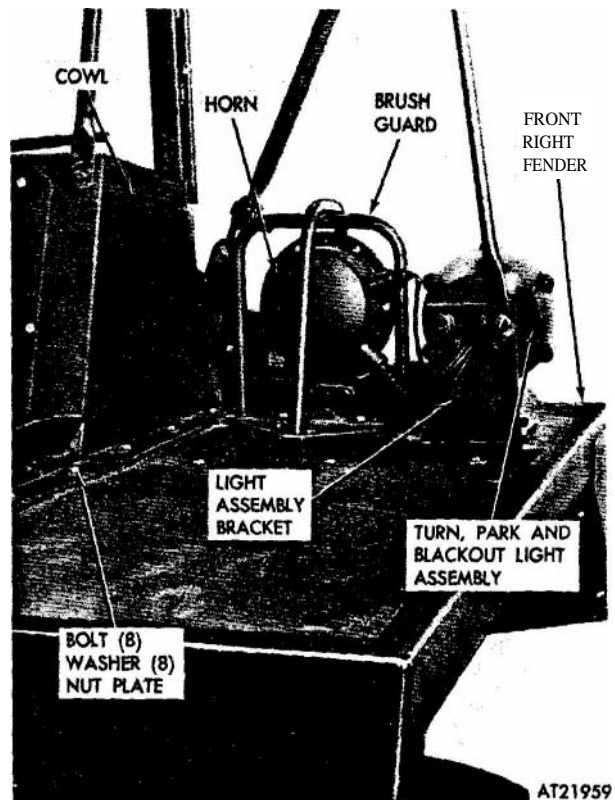

Figure 2-307. Tractor fender (front right view), removal and installation.
assembly bracket to fender. Remove bracket (fig 2-307).
(4) Remove horn assembly from right-hand fender (refer to para 2-1061).
(5) Remove screws and nuts securing horn bracket to right fender.
(6) Remove tractor fender (front) electrical harness assembly and grommet (refer to para 2-116).
(7) Remove battery and battery box assembly (refer to para 2-80).
(8) Drain and remove fuel tank (refer to para 2-47).
(9) Remove screws, washers, and nuts securing tailpipe hanger to left fender.
(10) Remove screws, washers, spacer and nuts securing angle to left fender.
(11) Remove mud guard and mud guard support from fender (refer to para 2-206).
(12) Remove screws, washers, nuts and nut plates securing fender to tractor. Remove fender (figs 2-307, 2-308 and 2-3091).
(1) Reapply non-slip compound (**MIL-B-23003**) to fender if needed.
(2) Position fender to vehicle, align mounting holes with small tapered punch and secure with 28 bolts, 28 washers, 13 nuts and 2 nut plates (refer to figs 2-307, 2-308 and 2-309).
(3) Install mud guard and mud guard support to fender (refer to para 2-206).
(4) Position and secure angle to fender with spacer, three screws, washers and nuts.
(5) Position and secure tailpipe hanger to left fender with two screws, washers, and *nuts*.
(6) Install fuel tank assembly (refer to para 2-47).
(7) Install battery box assembly and battery (refer to para 2-80).
(8) Insert electrical harness into fender (refer to para 2-1161).
(9) Position horn bracket and guard assembly to right-hand fender. Secure bracket with two screws and nuts. Secure guard with two nuts.
(10) Install horn assembly (refer to para 2-106).
(11) Position light assembly bracket to fender and secure with four screws and nuts.
(12) Install turn, park, and black-out light assembly (refer to **para** 2-100).